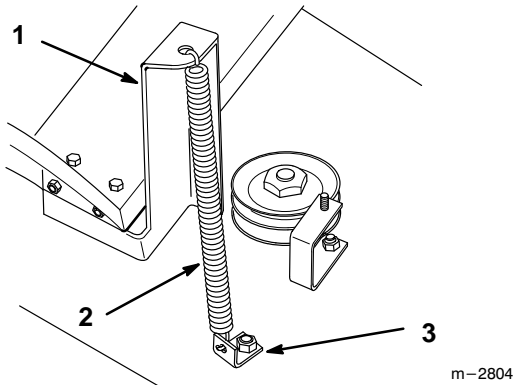

Figure 12
6. Raise the mower to the highest height-of-cut and install the spring between spring bracket and spring clip. Adjust the position of the spring clip on the deck if necessary so the spring is vertical (Fig. 12).